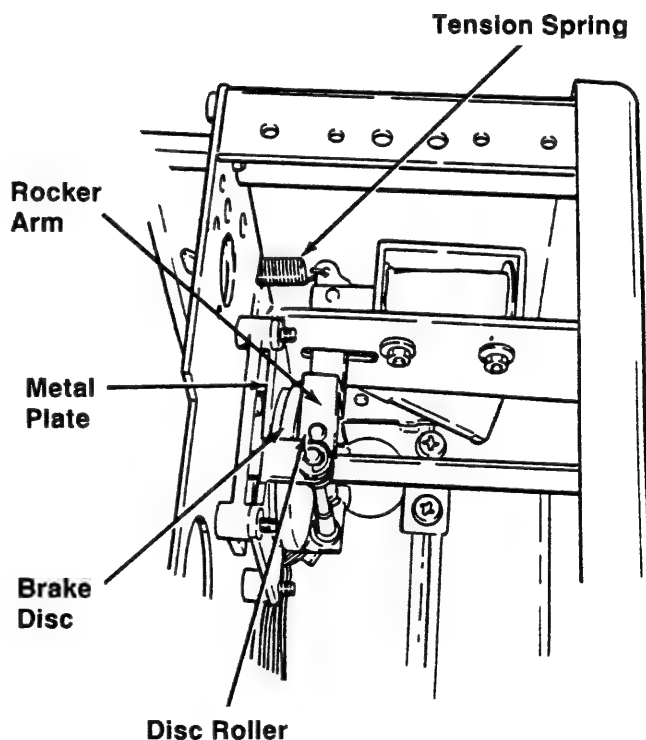

Figure 3-2A
12. Unhook the Tension Spring (Figure 3-2A).
14. Insert a 0.305 mm (0.012 in) Feeler Gauge between the Metal Plate and the Brake Disc (Figure 3-2A). The gauge should be able to move with some resistance.
15. Insert a 0.305 mm (0.012 in) Feeler Gauge between the Disc Roller and Brake Disc (Figure 3-2A). The gauge should be able to move with some resistance.
2. Loosen the Set Screw securing the Brake Disc. (Figure 3-2A).
3. Pull the Brake Disc away from the Metal Plate and insert a 0.305 mm (0.012 in.) Feeler Gauge between the Metal Plate and Brake Disc (Figure 3-2A).
5. Place the Tension Spring in the center position (Figure 3-2A).